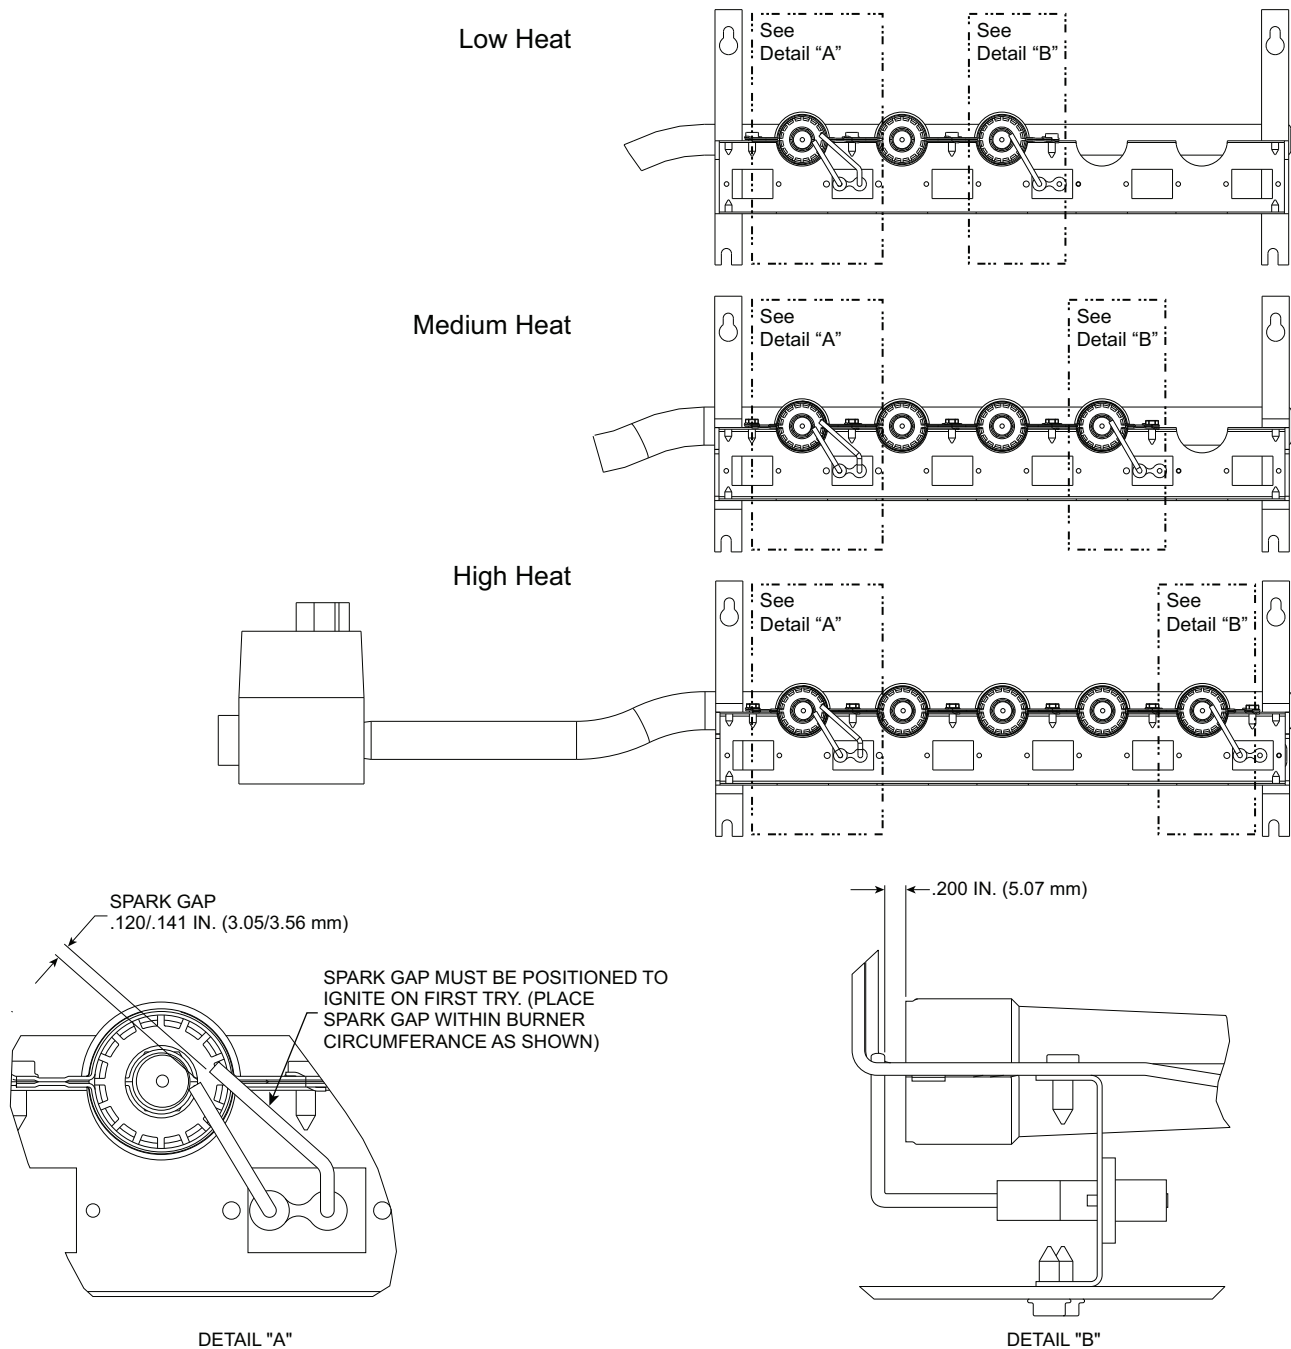

Fig. 61 — Spark Adjustment
4. Adjust spark gap. (See Fig. 61.)